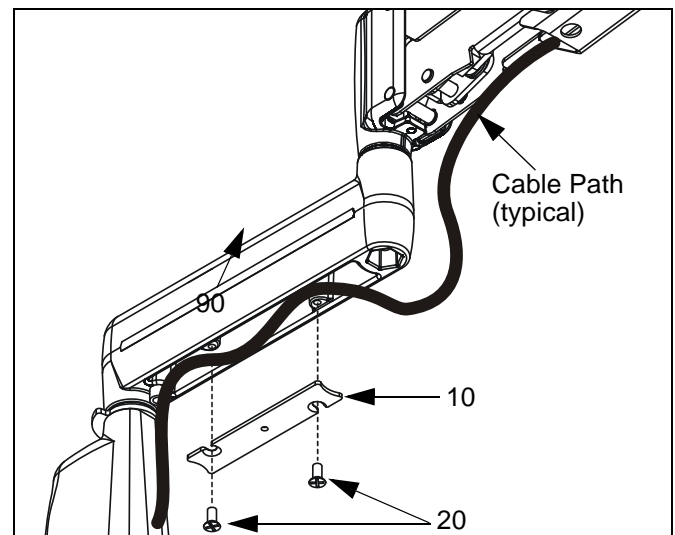

Figure 23: Static Arm - Cable Path
5. Carefully insert cables in cavity located in lower portion of static mount arm (See Figure 23).
6. Using Phillips screwdriver, install cover (10) with two screws (20).